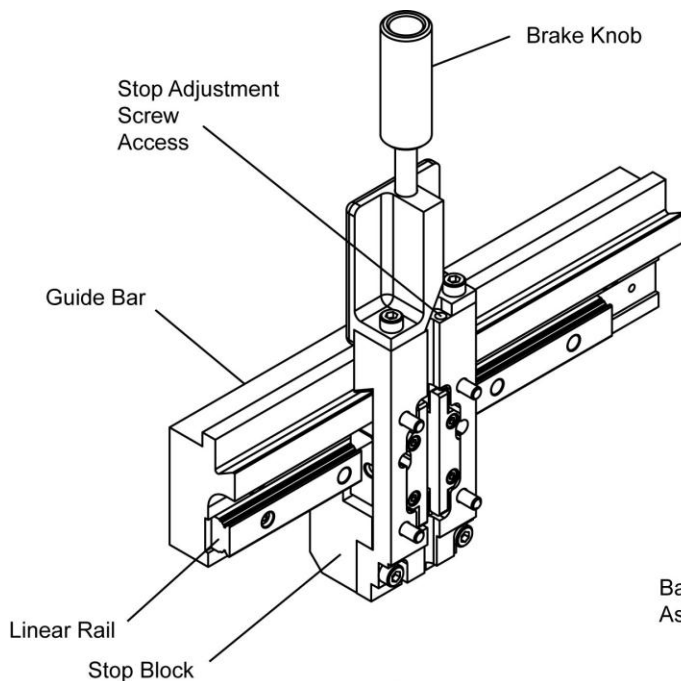

Fig. 1
5. Adjust knifeholder to guidebar (Fig.1).